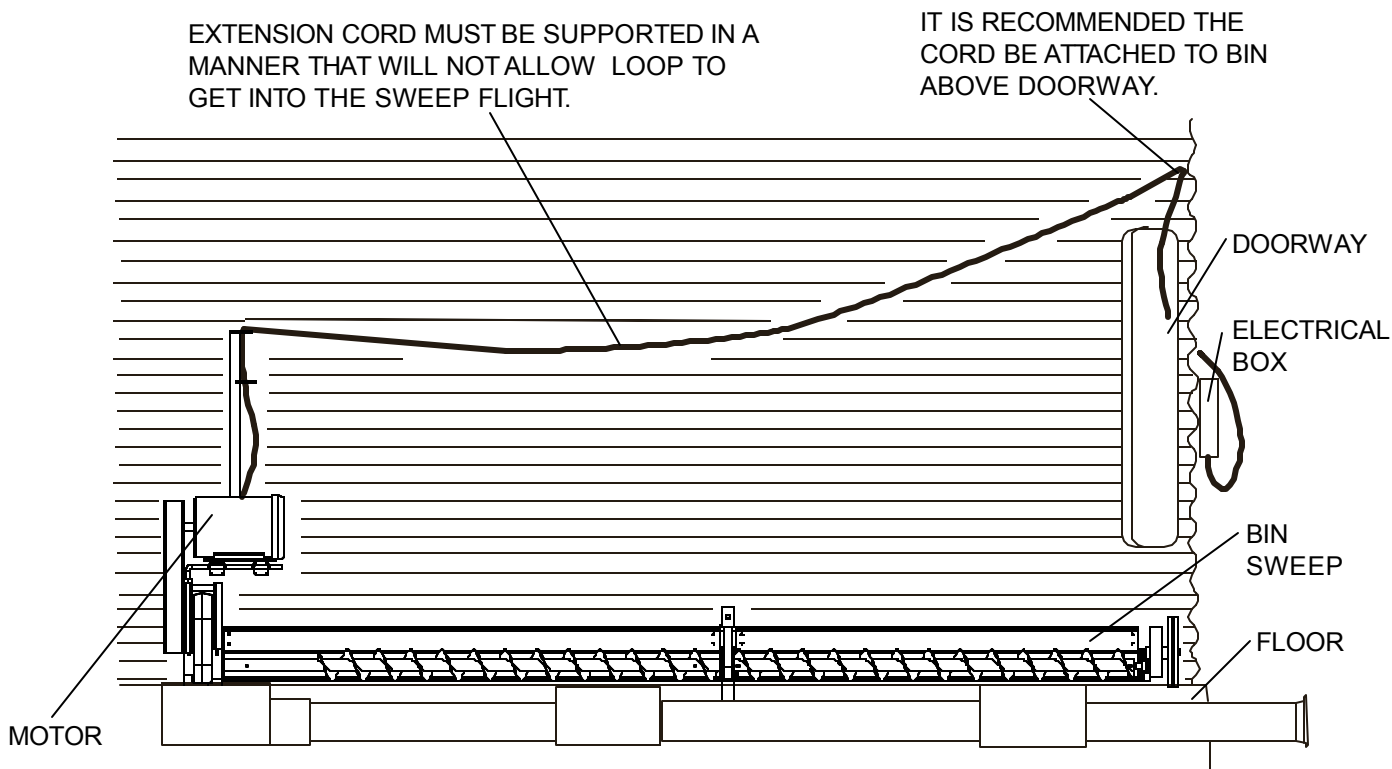

FIG. 18
- E. Attach suitable electric wiring to the motor in a manner that will permit the sweep to rotate several times about the bin. The motor starting controls must be located outside of the bin. They must never be installed on the sweep auger inside the bin. Locate the motor starting controls outside the bin, but near the door so the operator has full view of the operation inside the bin. (See Fig 18)